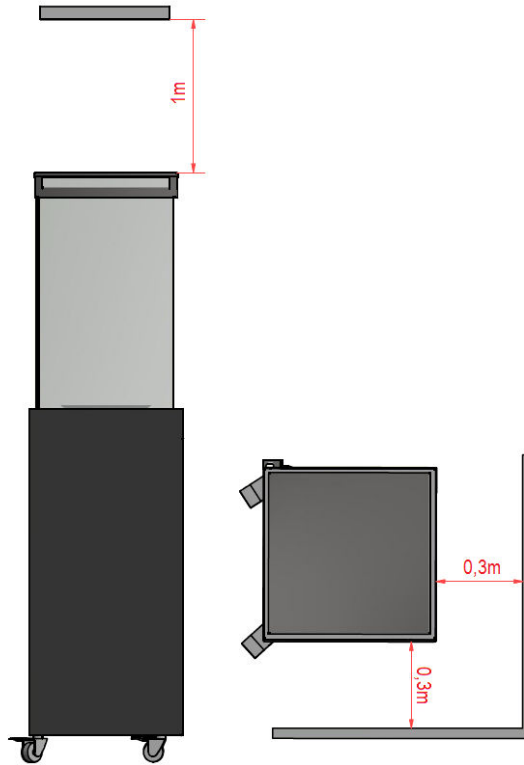

Fig 2 – Minimum distances
- This appliance must be kept away from flammable materials during use. Do not place any combustible materials within a distance of 0,3 m of ZOIA and 1 m over the appliance (Fig 2).